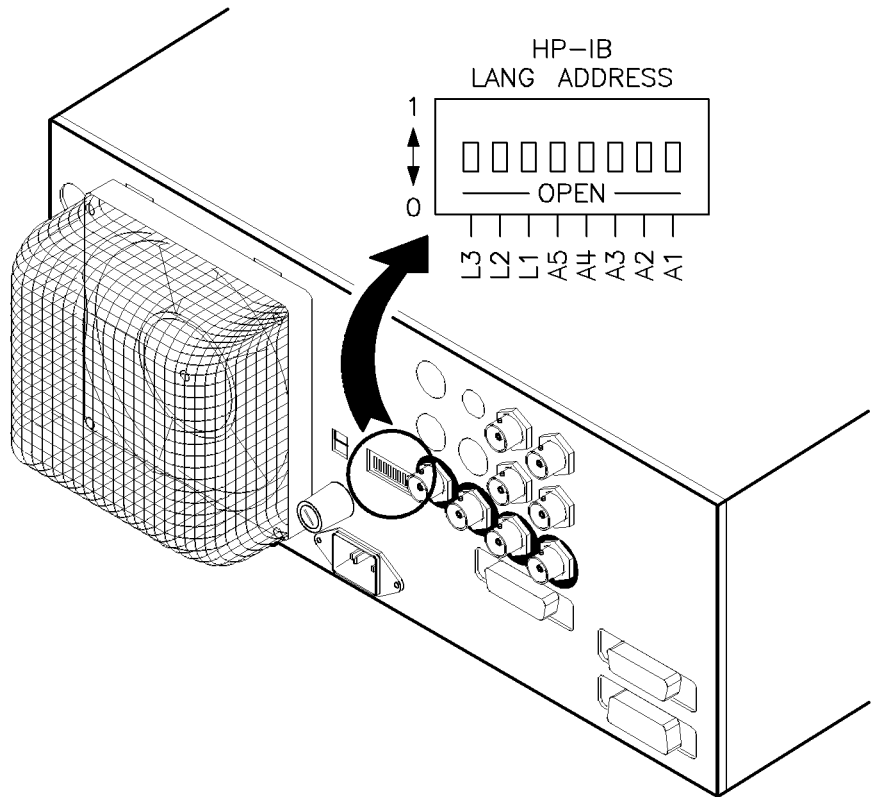

Figure 3-2. Rear Panel HP-IB Switch
To set a programming language from the front panel, the instrument language on the rear panel HP-IB switch (L1, L2, and L3 Figure 3-2) *must* be set to 7 (all 1s).
If the synthesizer displays **Rear panel HP-IB language must be 7 (111) in order to change current language (=XXX)**, the address on the rear panel HP-IB switch (Figure 3-2) is set to something other than 7 (all 1s).
If your synthesizer does not have a front panel, set the rear panel HP-IB switch (Figure 3-2) for the language you want. (See Table 3-1 for language addresses.)
To set an HP-IB address from the front panel, the instrument address on the rear panel HP-IB switch (Figure 3-2) *must* be set to 31 (all 1s).
If the synthesizer displays **Rear panel HP-IB address must be 31 (11111) in order to change current address (=XX)**, the address on the rear panel HP-IB switch (Figure 3-2) is set to something other than 31 (all 1s).
To disable the address softkeys, set the instrument address on the rear panel HP-IB switch (Figure 3-2) to any address *other than 31* (all 1s).
If your synthesizer does not have a front panel, set the address on the rear panel HP-IB switch (Figure 3-2) to the address you want (factory default is 19).